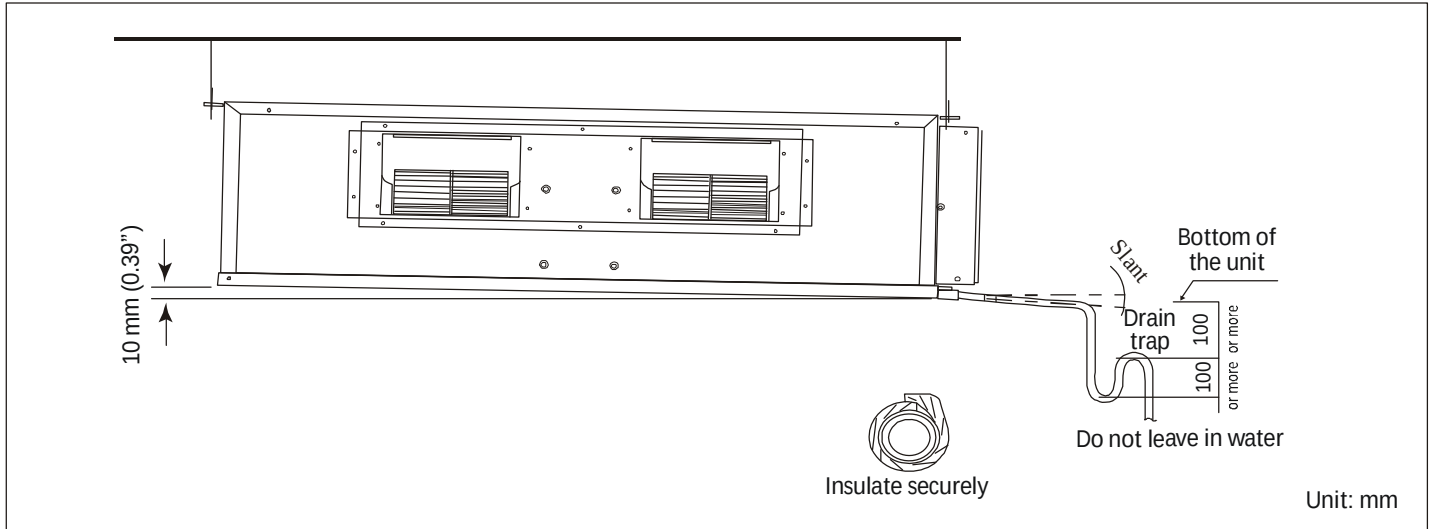

Figure 12
- To avoid damage caused by leaks and condensation, the drain pipe must be installed as shown in Figure 12.